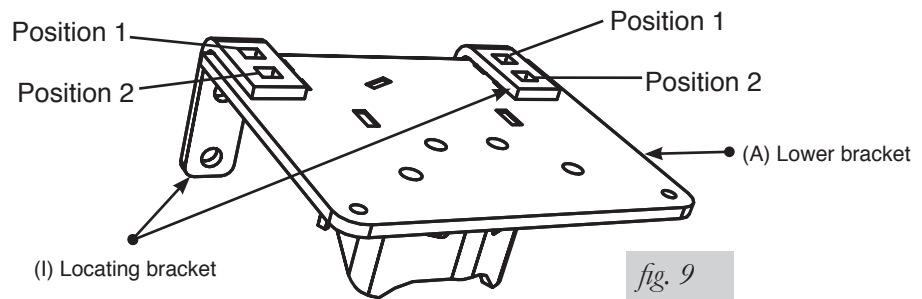

fig. 9
1. Insert a 3/8"-16 x 5.5" hex head bolt (K) and flat washer (W) into one of the two bottom holes of the locating bracket (I) (Fig. 9).
- 2a. If you are installing this kit on a single rear wheel (SRW) vehicle, use position 2 to insert the long 3/8"-16 x 10" carriage bolt (Q) through the top of the locating bracket and lower bracket (Fig. 9).
- 2b. If you are installing this kit on a dual rear wheel (DRW) vehicle, use position 1 to insert the long 3/8"-16 x 10" carriage bolt (Q) through the top of the locating bracket and lower bracket (Fig. 9).
3. Attach the locating bracket (I) to the lower bracket with a 3/8"-16 x 1.25" carriage bolt (P), flat washer (W) and nyloc nut (V) using the remaining slot in the top of the locating bracket. Leave loose at this time.
5. Using the 3/8"-16 x 5.5" hex head bolts (K) and flat washers (W) previously installed on the locating brackets, insert them into the spring clamp bar (E) on the opposite side of the leaf spring assembly (Fig. 9). Cap with 3/8" flat washers (W) and nyloc nuts (V). Leave loose at this time.